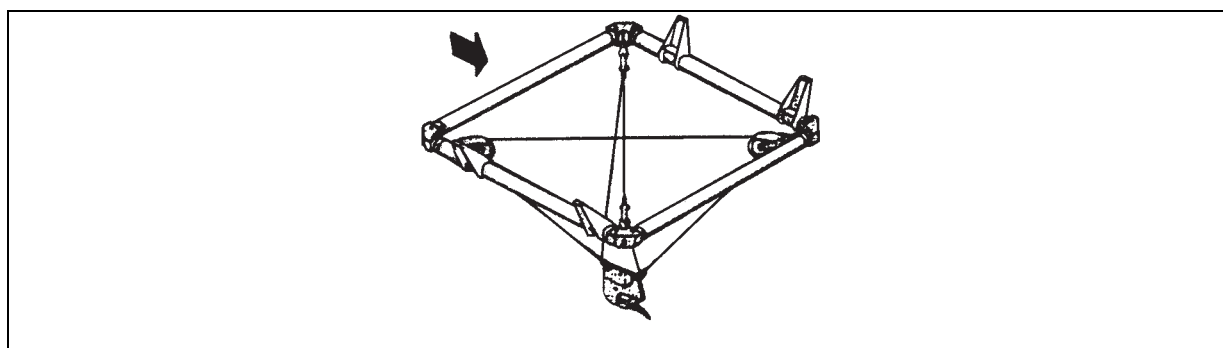

Figure 2-8. Low Response System
- In the low response system (figure 2-8), the cargo hook is attached to a suspension frame through cables and pulleys.